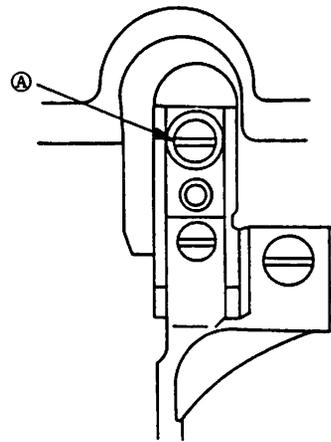

Fig. 11.3
Secure the knife bracket unit to the bed with screw (A) as shown in Fig. 11.3